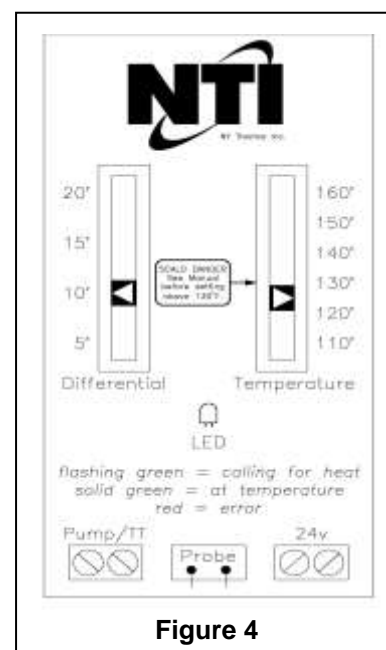

Figure 4
- 7) **Adjusting the Temperature** (Figure 4) - Locate the temperature setting slide on the right-hand side of the TPI.
- 11) **Operation and Differential** (Figure 4) - Locate the differential setting slide on the left-hand side of the TPI. Factory setting is 10°. Slide the lever to the desired setting, using the indicator scale.